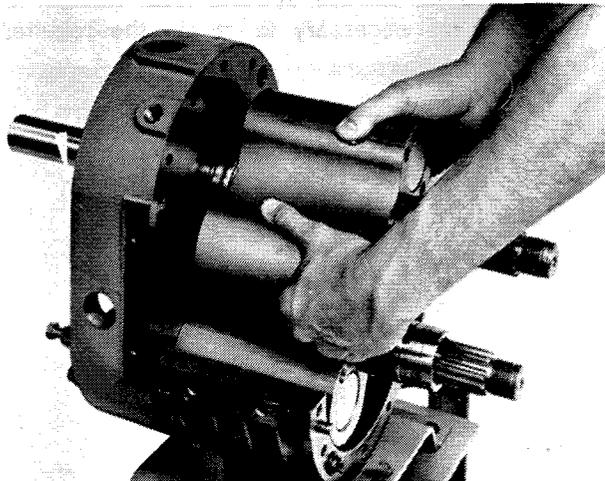

FIGURE 20
- i. Assemble the drive rotor to the end plate (see Fig. 20).